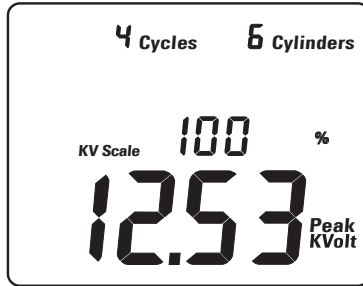

Fig. 4 - Example of display when in KV Adjust mode
- 3- Press and hold the  (*Engine Cycles / KV Adjust*) button until the minimum reading in the display is replaced by 'KV Scale' and then a number followed by a '%' sign, as shown in Fig. 4 below.